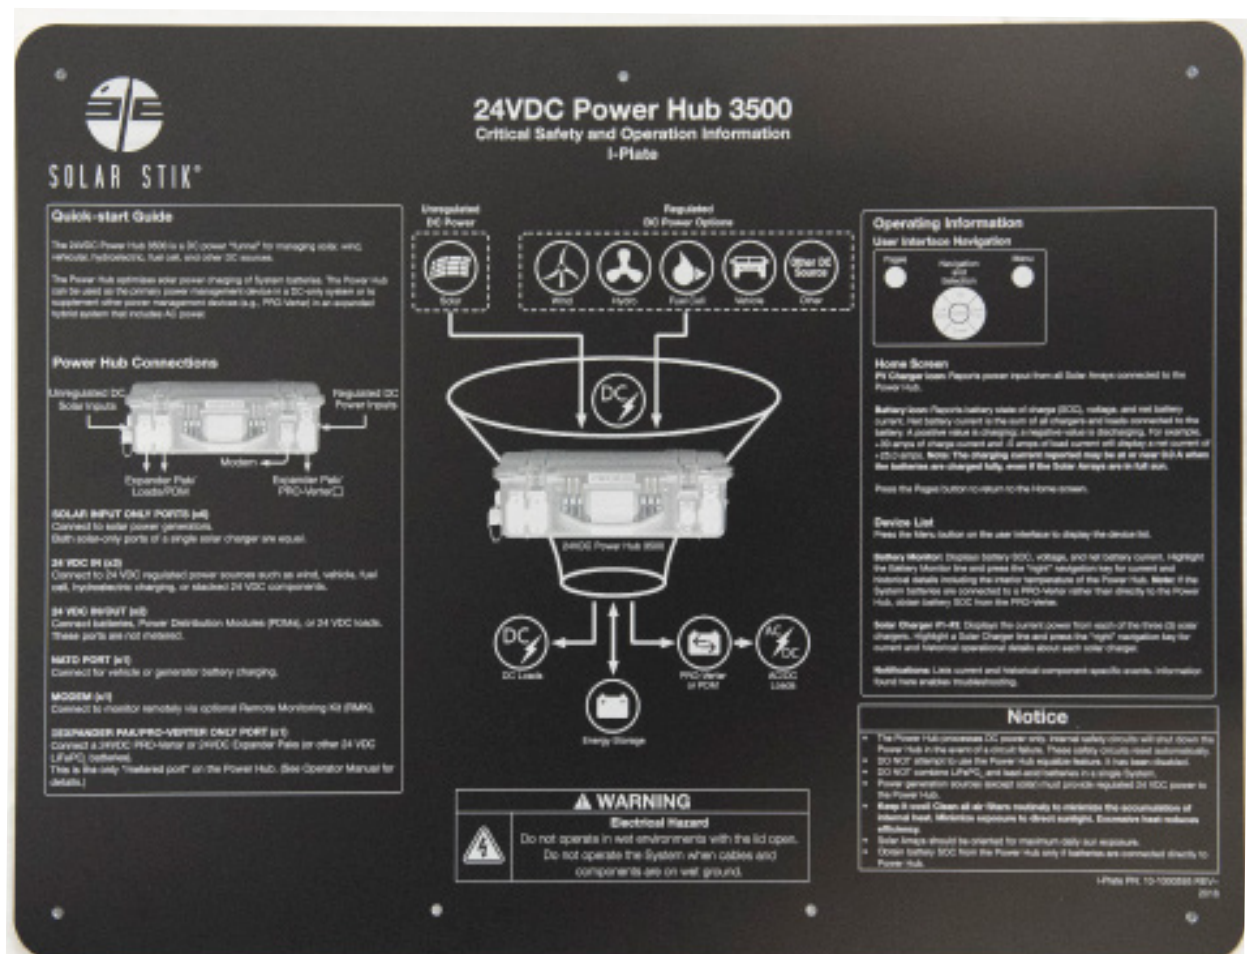

Figure 10. Power Hub I-Plate
Each of the three (3) solar chargers safely accepts up to 1166 watts. Different types of solar arrays can be connected to the Power Hub simultaneously as long as their specifications meet the requirements shown on the Faceplate (Figure 10). The bayonet connector for the Solar Leash is keyed and unique to the Solar Stik System (Figure 7). It cannot be connected improperly, and no other Solar Stik System cable will fit.